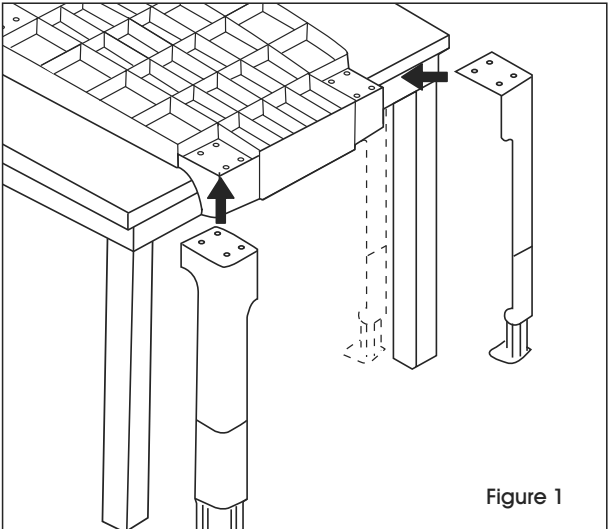

Figure 1
2. Place one support on each corner over edge. (See Figure 1)